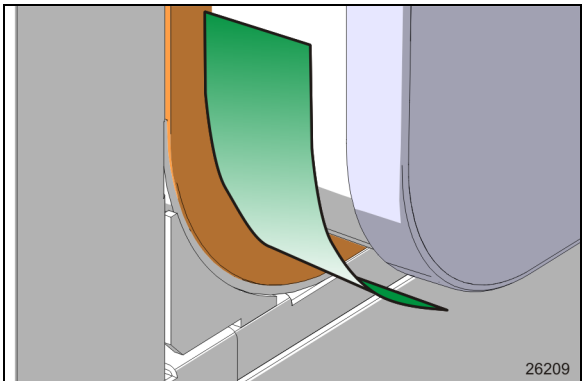

FIGURE 20: PLASTIC SHEET - WIPER SEAL PROTECTION
12. Protect the wiper seal by inserting a polypropylene plastic sheet between the room and the wiper seal. Do this on both bottom corners (Figure 20). This will distribute the compression of the wiper seal on a wider zone and prevent the room exterior panel corner from binding or pulling on the wiper seal.